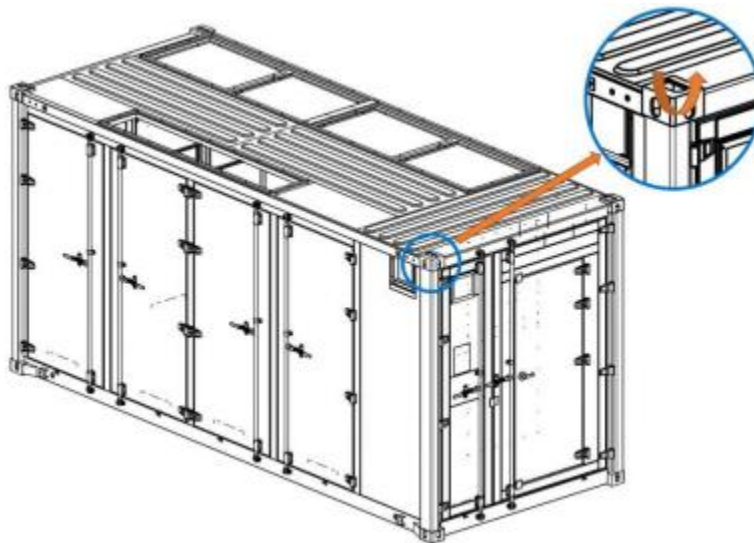

Figure 6.1 Corner casting
1. Thread lifting slings through the four corner castings at the top of the container (corner casting locations are as shown in Figure 6.1).